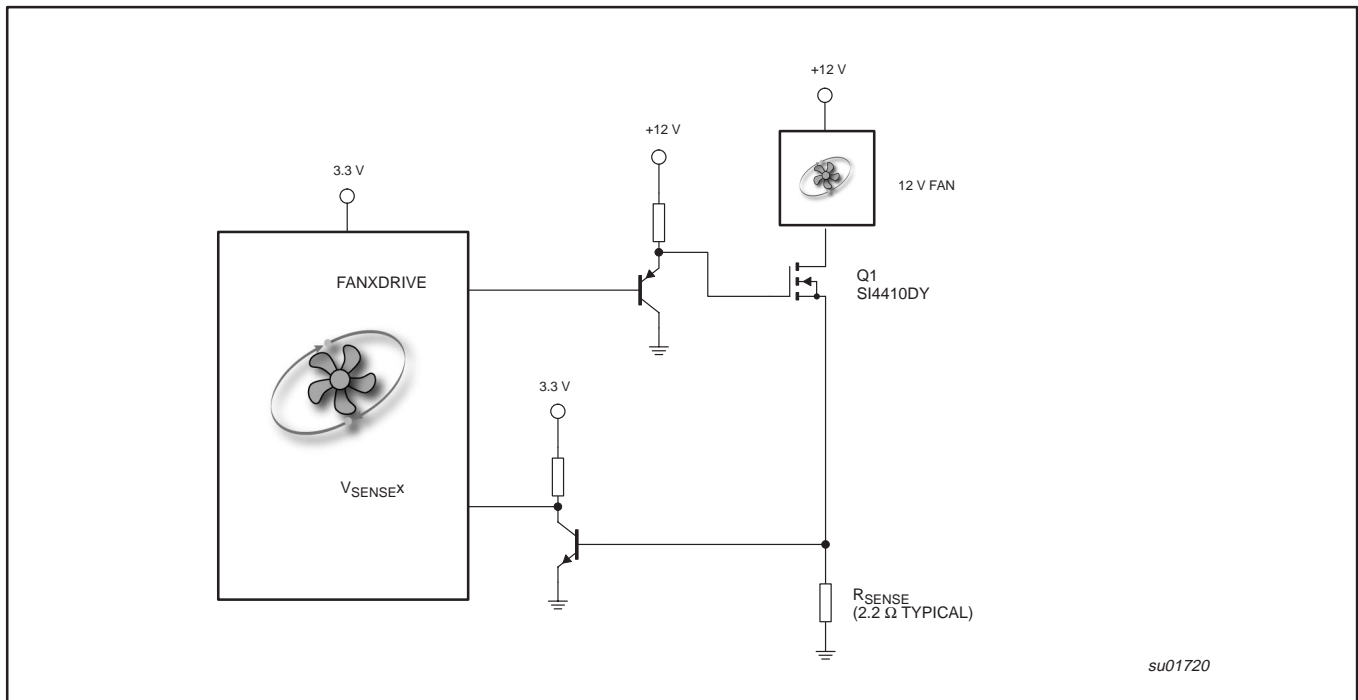

Figure 4. Interfacing the 82CF201 to a 2-Wire fan.
The PWM controls the fan speed proportionally to the thermistor resistance. The 30Hz PWM duty cycle has resistance control range from 10K to 1.75 KΩ (typical for NTC thermistor) for 30% to 98% output duty cycle. The PWM pins drive a low cost PNP transistor to give a good drive into the N-channel MOSFET as the low side power switch element in the system. Example of drive circuits will be shown Figure 4. This output has asymmetric complementary drive. Since the system relies on PWM rather than linear power control, the dissipation in the power switch is kept to a minimum. Generally, very small devices (TO-92 or SOT package) will suffice.
As shown in Figure 4, the  $V_{SENSE}$  input is connected to the collector of NPN transistor through an inverting buffer transistor (2N3904 or PMBT3904D) which amplifies the signal from the low-value current sensing resistor in the ground return leg of the fan circuit. During normal fan operation, communication occurs as each pole of the fan is energized.
$1.56$  V @  $V_{DD}=3.3$  V). The design of proper sense circuitry is a matter of scaling the  $R_{SENSE}$  and the gain in buffer transistor to meet the logic high as shown in Figure 4. Assuming the  $V_{BE}(\min)$  of the transistor is approx.  $0.5$  V. Table 1 lists some recommended  $R_{SENSE}$  values according to the nominal operating current.
**Table 1. Recommended values of  $R_{SENSE}$  per Figure 4**